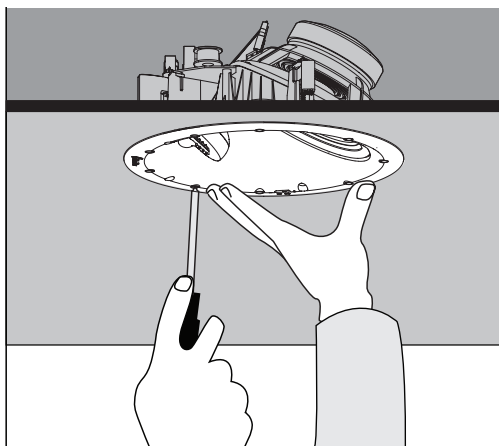

Figure 6
8. Holding the speaker's front lip with your thumbs and index fingers, carefully slip the speaker into the cutout and hold firmly in place. (Figure 6).